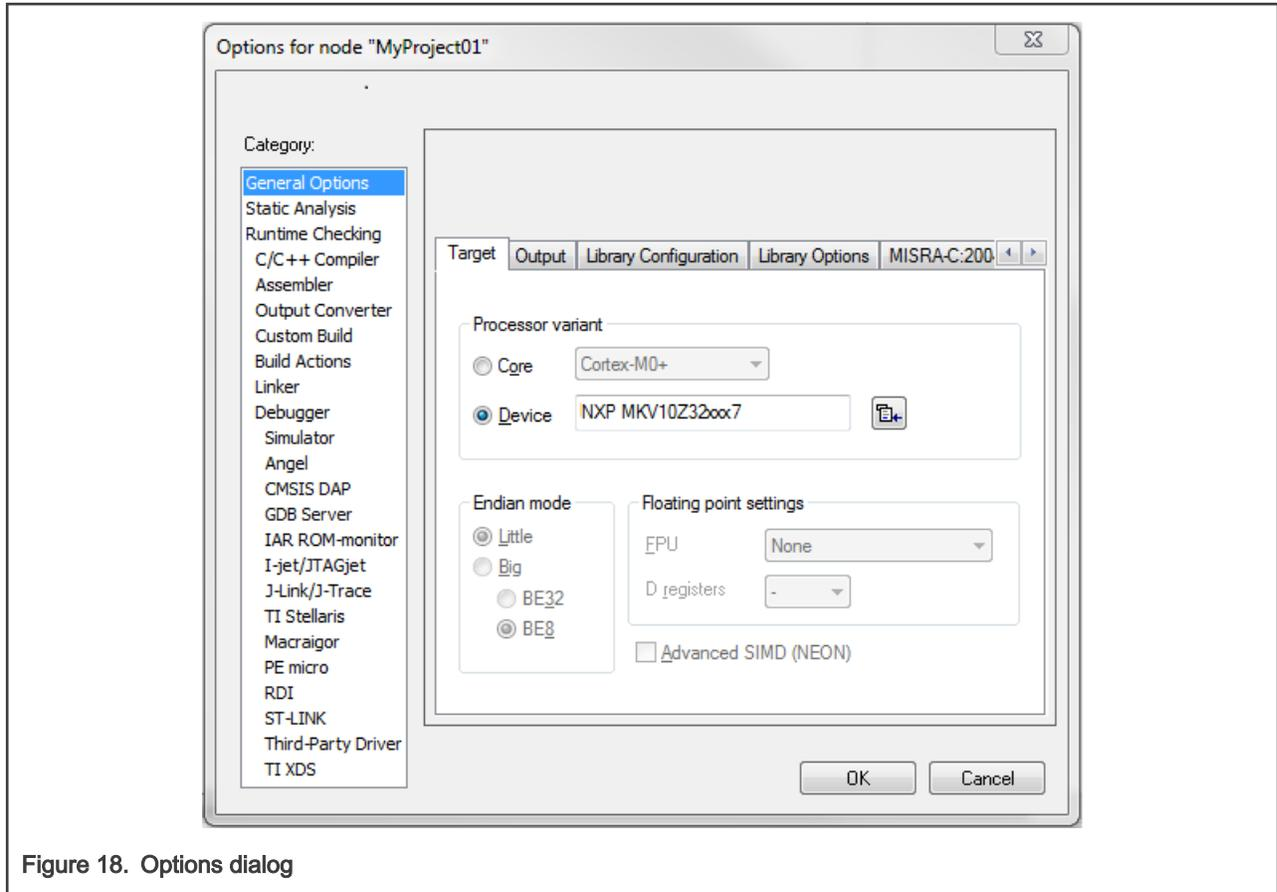

Figure 18. Options dialog
6. In the Target tab, select the Device option, and click the button next to the dialog to select the MCU. In this example, select NXP > KV1x > NXP MKV10Z32xxx7. Click OK. See Figure 18.